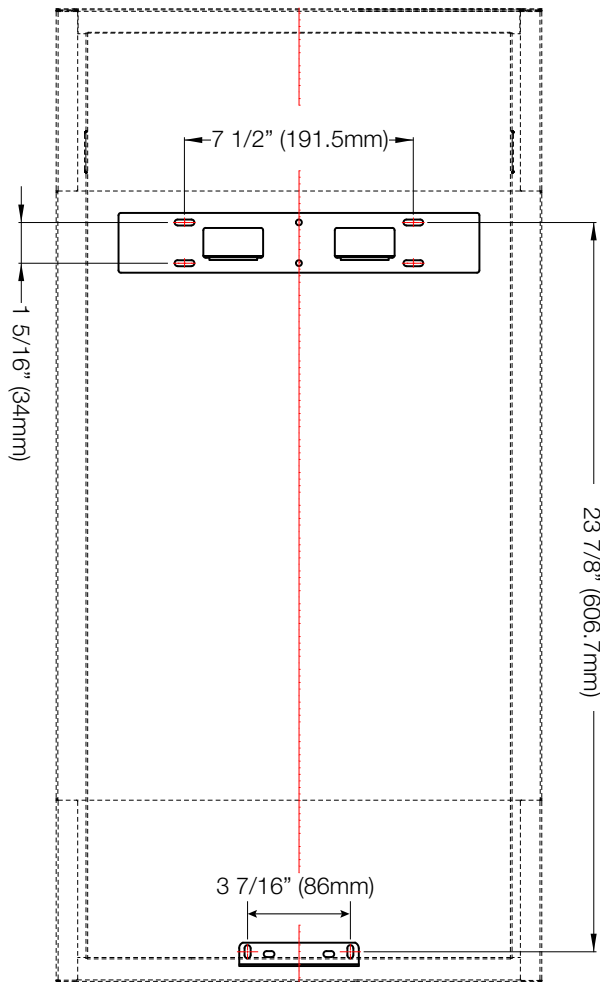
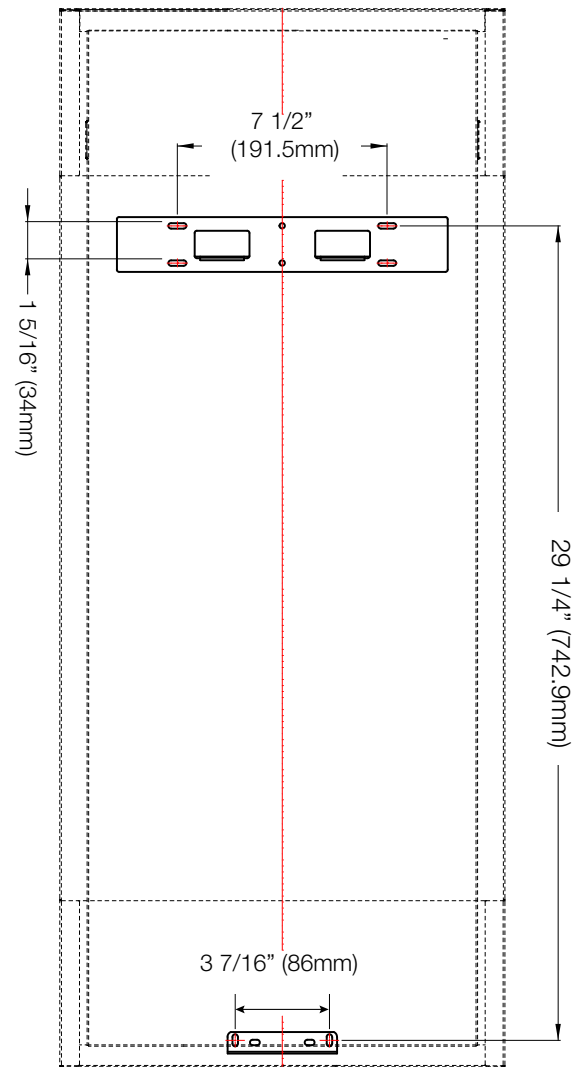

Fig. 2: NEFVC32H Wall Mounting Installation Template
Fig. 3: NEFVC38H Wall Mounting Installation Template
- Using the appropriate wall mounting installation template (**Fig. 2 for NEFVC32H or Fig. 3 for NEFVC38H**), mark out the back and bottom bracket locations on the wall.